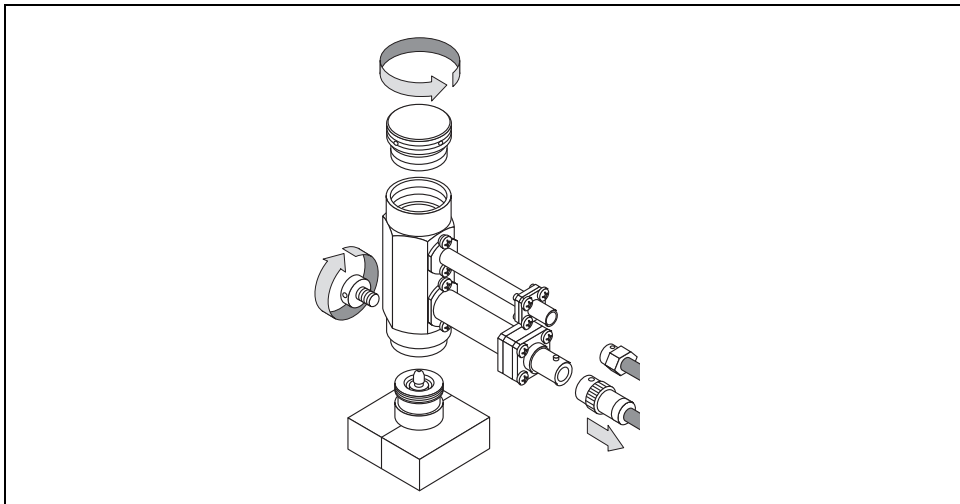

Figure 15-12. Clean/Replace the Jet (1)
4. Disconnect the signal and ignition polarization cables from the detector. See Figure 15-12.
5. Loosen the fixing screw on the front of the detector cell and remove it. See Figure 15-12.